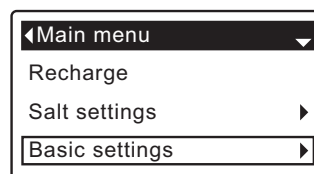

FIG. 37
1. From any of the rolling status screens, press the SELECT (O) button to display the **Main menu**.
2. Press the DOWN (▼) button to scroll through the menu options until **Basic settings** is highlighted (See Figure 37).